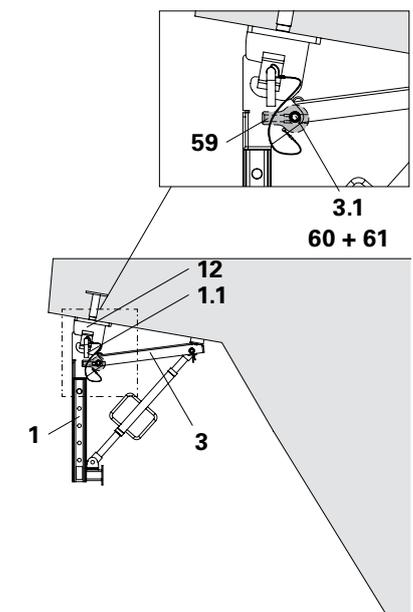

Fig. B1.03e
1. Bolt the Eye Nut RCS DW 15 (59) in the Bracket Post VGK (1) using bolts $\varnothing 16 \times 90$ (60) and secure with cotter pins 4/1 (61). (Fig. B1.03e)
1. Attach the Eye Nut RCS DW 15 (59) to the Bracket Cantilever VGK 50 (3) and Bracket Post VGK (1) using bolts and cotter pins (3.1). (Fig. B1.03e)